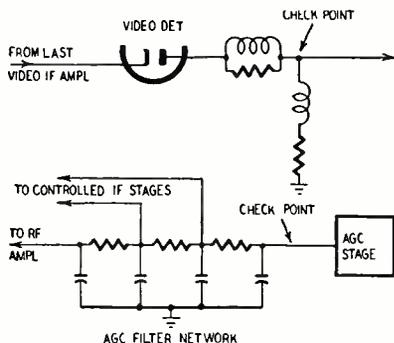

Fig. 2—Video detector and agc voltage check points.
1. *Dc voltage checks at the video detector load and agc line* Dc voltage checks should be made at the video detector load and agc line (Fig. 2), first with the set tuned to an active channel, then with the set turned to an inactive channel.